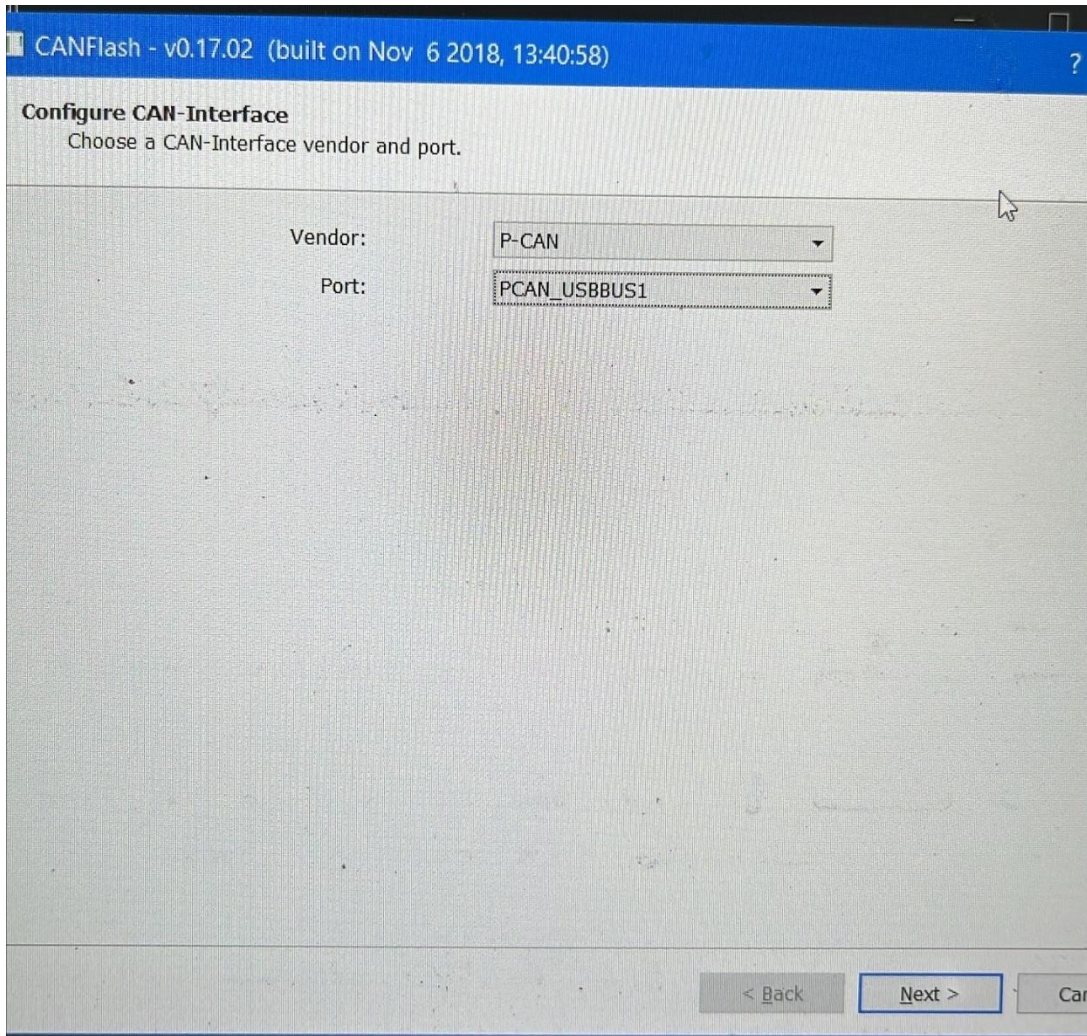

Figure 7: CANFlash PCAN settings
26. Once CANFlash is open select **P-CAN** under the Vendor drop-down menu. Select **PCAN_USBBUS1** under the Port drop-down menu (see figure 7). It's important to ensure the physical connection to the laptop matches the same port as dictated by the CANFlash setup. Click **Next** when complete.